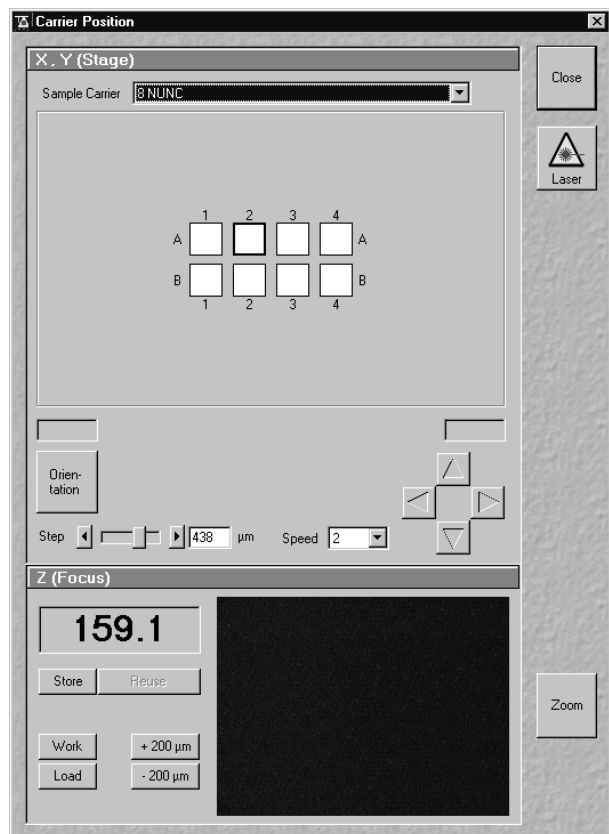

Fig. 5-165 Carrier Position window
- The sample select window (**Carrier Position** window) pops up (Fig. 5-165).